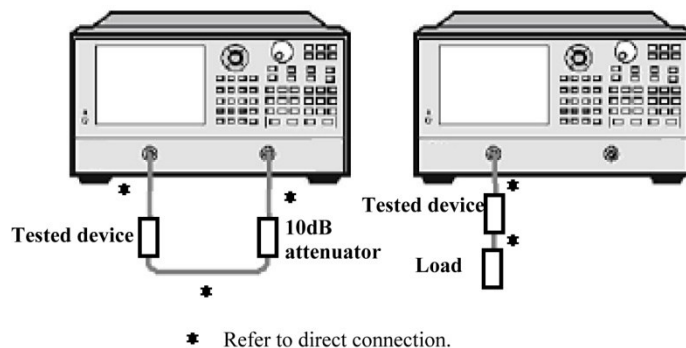

Figure 8.10 Impedance measurement connection
- 3) Connect devices as shown in Figure 8.10 above and carry out S11 or S22 measurement.
- c) Move the marker along the trace to read the conductance and susceptance components of the complex admittance at the desired data point. The conductance and susceptance are expressed in Siemens (S).